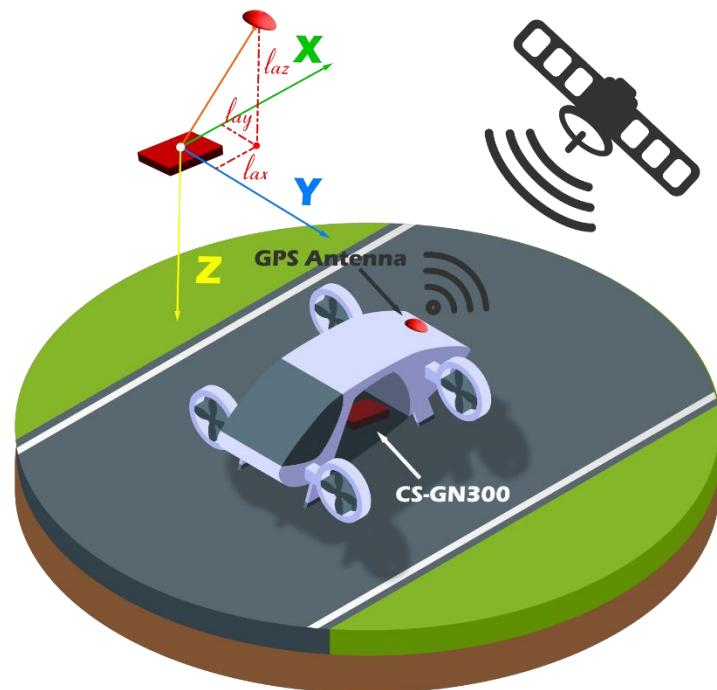

Figure 2. Example GNSS antenna lever-arm scenario
3. Proximity to other radio frequency (RF) transmission sources (e.g. telemetry radio) can negatively impact the GNSS signal-to-noise ratio.
4. If the separation between the GNSS antenna and the CS-GN300 sensor is significant (e.g. > 0.5 m), the GNSS antenna offset, also known as the GNSS lever arm, should be configured using the GNSS lever-arm command (table 9). This involves defining the vector between the CS-GN300 sensor and the GNSS antenna, expressed in the sensor coordinate frame, as shown in Figure 2. In this example scenario, the GNSS antenna offset is ℓ_{ax} , ℓ_{ay} , and ℓ_{az} (here ℓ_{az} is a negative number). The command `$nGLA, ℓ_{ax} , ℓ_{ay} , ℓ_{az} *<cr>` can be used to configure the GNSS lever arm.